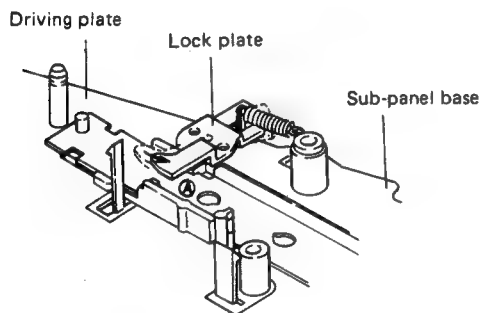

Fig. 10-11 Cam assembly attachment
The cam assembly is attached by letting the lock plate go in the direction ① as shown in Fig. 10-11.